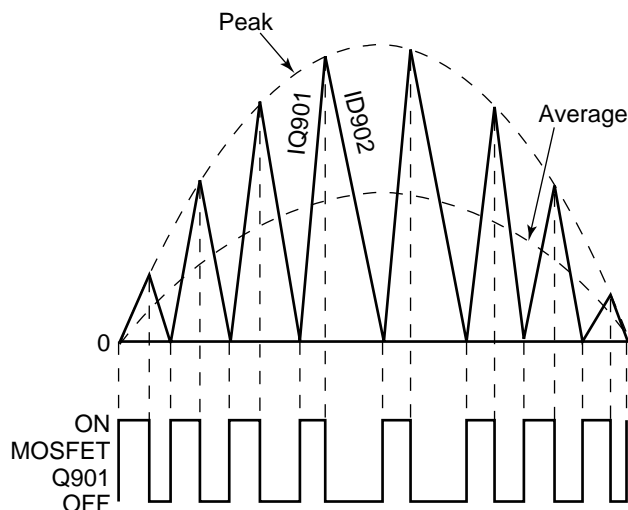
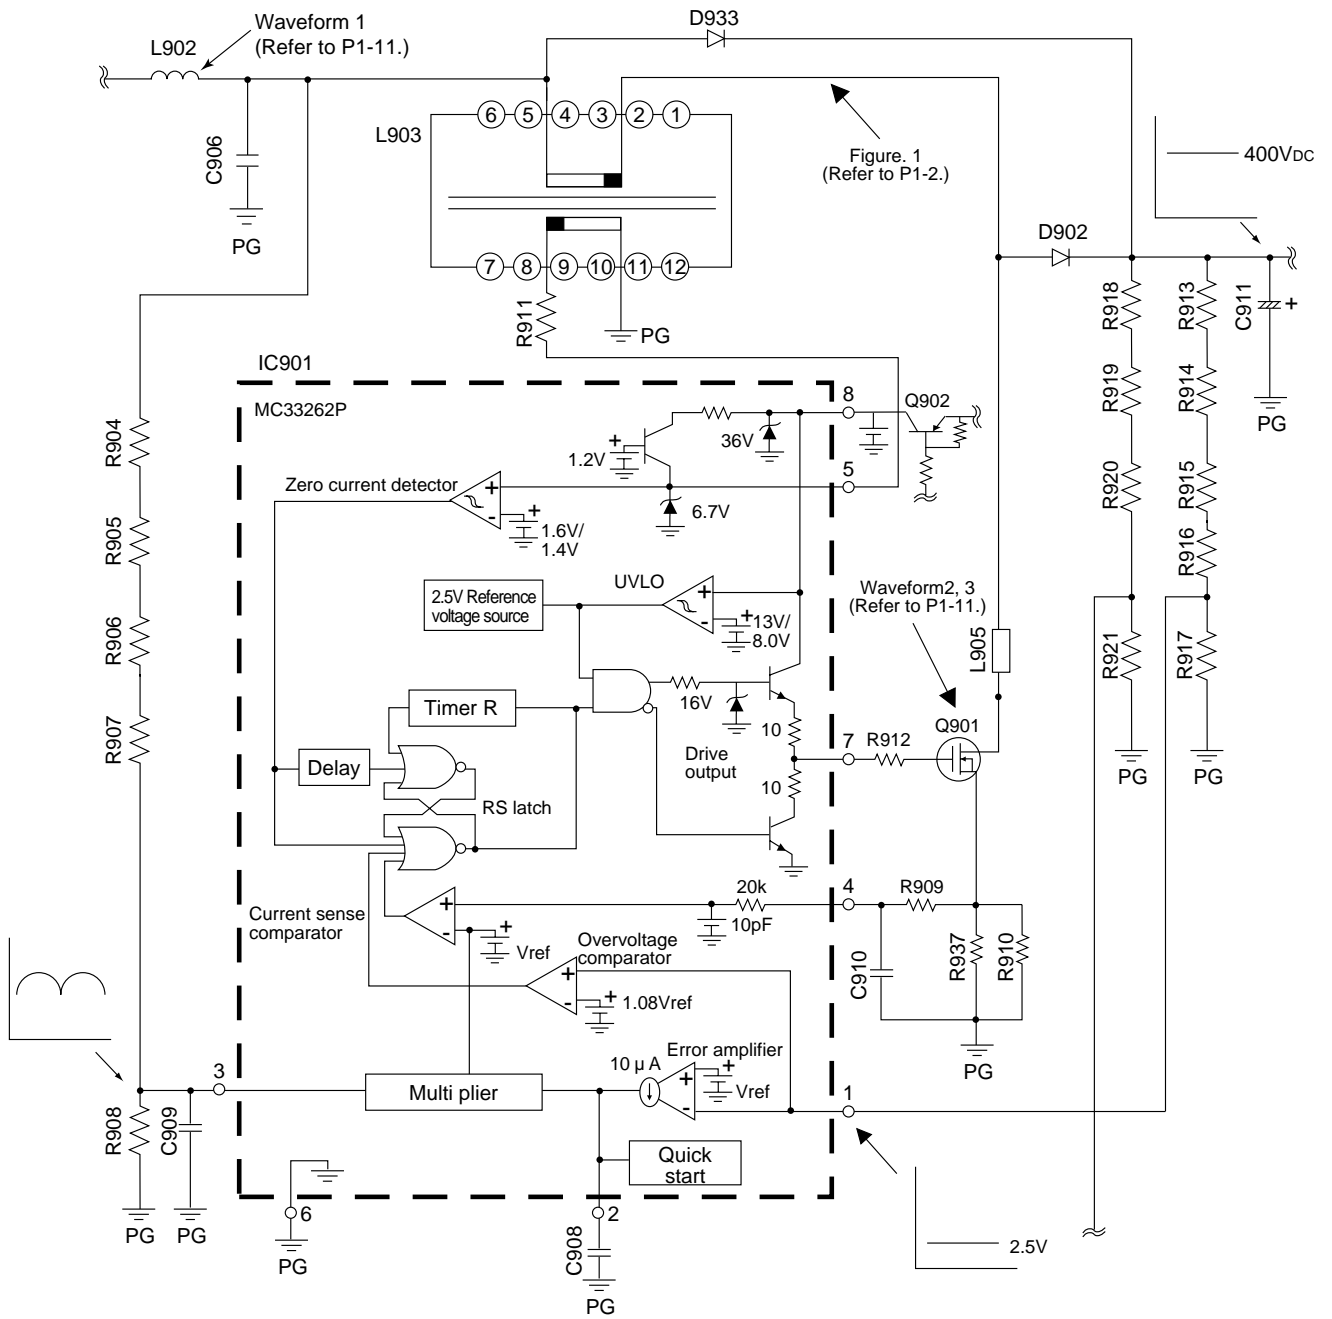

Figure 1. L903 coil current
Figure 2. High harmonic waveform circuit
- (1) The pulsating waveform rectified in the full wave mode by D901 is switched throughout the full cycle by the frequency of several tens kHz or more. Through this, the input current waveform becomes an average of the switching currents of the partial cycles, thus becoming the sine waveform in the macro. (See Fig.1)
- (2) For the AC input voltage, the AC input current of the sine wave type in the same phase flows to achieve the power circuit of improved power factor and reduced higher harmonic wave component.
- (3) L903 is the choke coil, Q901 is MOS FET, D902 is the rectifying diode, C911 is the block capacitor, and IC901 is the power factor improved controller. The power factor improved controller uses MC33262P of Motorola. (See Fig. 2)
- (4) After the sub power circuit operates, P-SUS signal becomes HI when +5V voltage is supplied to the MPU. Then, Q902 is turned ON, the voltage of approx. +18V is supplied to pin8 (VCC terminal) of IC901 through D929 from pin2 of T902, and the following operation is started.
- (5) The pulsating voltage waveform rectified in the full wave mode by D901 is divided with R904, R905, R906, R907 and R908 (100VAC : 1.1Vp-p and 240VAC: 2.9Vp-p), and is input to pin3 of IC901 (Multiplier input). Moreover, the output (+side of C911: 400VDC) of the higher harmonic circuit is divided with R913, R914, R915, R916 and R917 (2.5VDC), and is input to pin1 of IC901 (error amplifier input).
- (6) The output of the error amplifier and the divided waveform of the pulsating voltage input to pin3 of IC901 sets the threshold voltage of the current sense comparator to control the Q901 flowing current from zero to the peak line of the AC input voltage in the sine wave pattern.
- (7) When Q901 is turned ON, the drain current of Q901 flows to R910 and R937 to drop the voltage, and the voltage generated by the voltage drop is input to pin4 (current sense input) of IC901. When the voltage reaches the threshold voltage of the current sense comparator, Q901 is turned OFF.
- (8) When Q901 is turned OFF, the accumulated energy of L903 starts to be supplied to the load through D902.
- (9) As the accumulated energy of L903 drops, the auxiliary coil voltage (pin8 of L903) also drops. When it reaches the threshold voltage of *zero current detector, Q901 will be turned ON again.
- (10) The above operation is repeated to continue the oscillating operation. Thus, the DC voltage (L903, Q901, D902 and C911 compose the voltage rise circuit.) is gained on the output, and the AC input current of the sine wave in the same phase with the AC input voltage is gained on the input side.